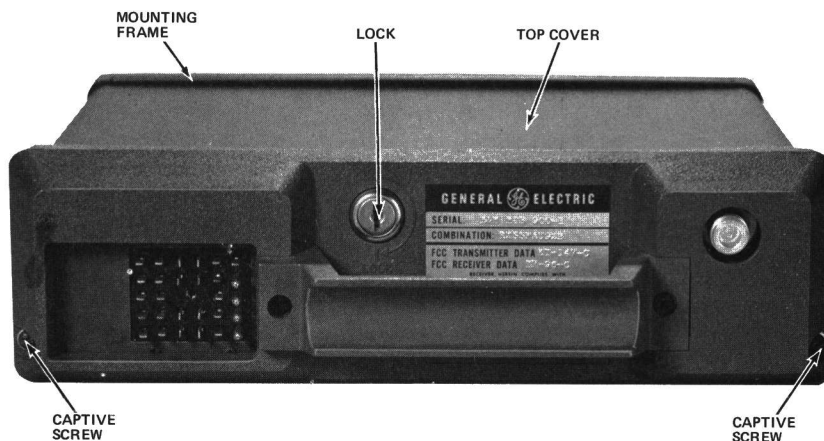

Figure 2 - Disassembly
1. Unlock the radio (see Figure 2).
2. Loosen the two captive screws shown in Figure 2.